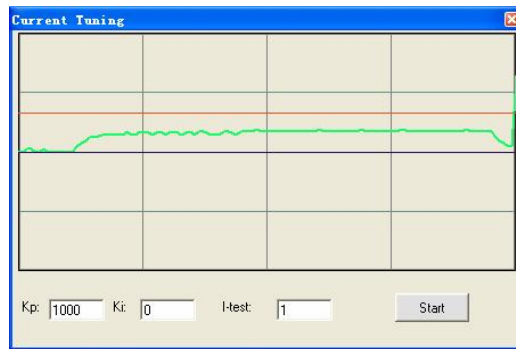

Figure 6-22: Current loop tuning with with  $K_p=1000$ ,  $K_i=0$
**Step 3:** Increase **Kp** to 1000 and click **Start**. The gap between target value and actual value is smaller but a higher **Kp** is needed. See figure 6-22.